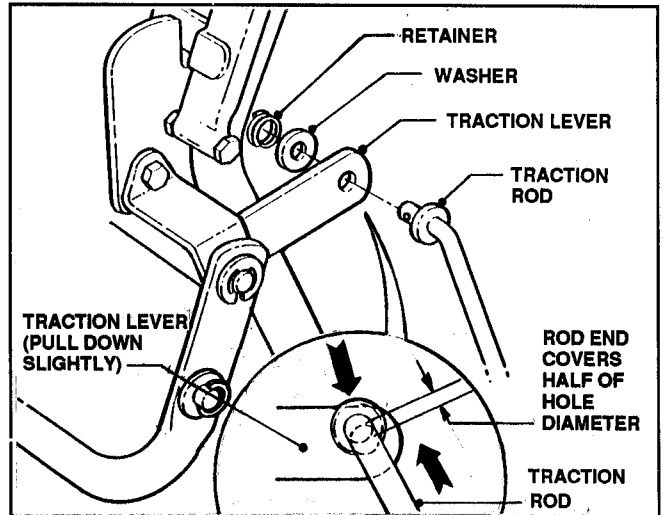

FIGURE 32A
- B. After adjusting TRACTION ROD, pull down slightly on TRACTION LEVER and locate upper end of TRACTION ROD over hole in end of lever. Adjustment is correct if rod covers half the hole. See Figure 32A.